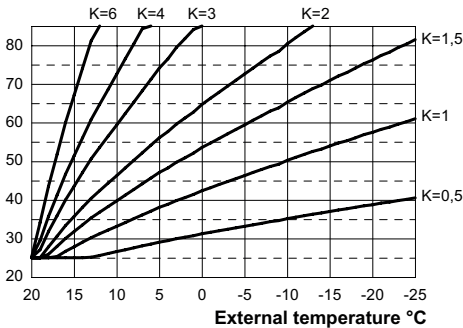

Fig. 8.6
If the boiler is **EQUIPED** with the remote control (optional) refer to Fig. 8.6. In this case K setting must be done from the remote control.
The K coefficients is a parameter that increases or reduces the boiler flow temperature when the outside temperature changes. When installing the external probe it is necessary to set this parameter based on the efficiency of the heating system in order to optimise the flow temperature (Fig. 8.6). E.g. In order to have a flow temperature at the heating system of 60°C with an external temperature of -5°C, set a K at 1.5 (sectioned line in Fig. 8.6).
- Using keys 10 or 11 it is possible to change the value of parameter 15 from a minimum of **01** to a maximum of **60** based on the selected bend of the K coefficient in Fig. 8.6 (the value read on the display corresponds to K coefficients decimal values).